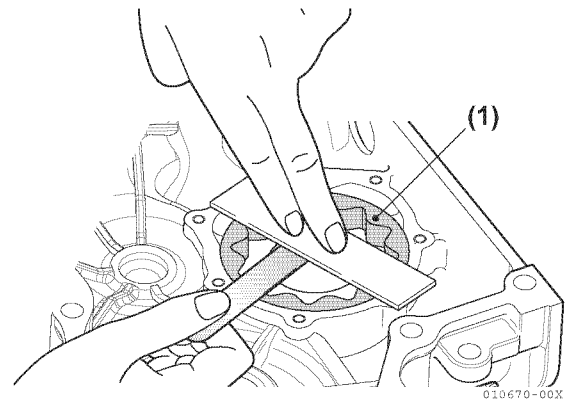

Figure 8-16
3. Place a right-angle gauge against the pump body and insert a feeler gauge (**Figure 8-16**).